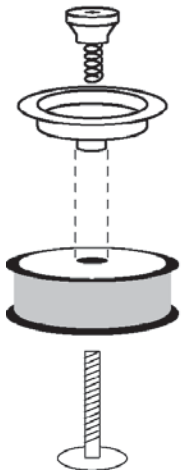
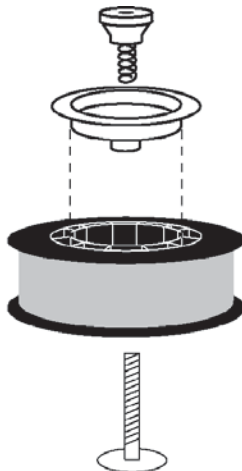

Figure 7A. Drive Brake Hardware Installation
Figure 7B. Spindle Adapter and Drive Brake Installation
5. If you are installing a four-inch spool of wire, install the drive brake hardware on the top of the spool of wire according to figure 7A. If you are installing an eight-inch spool, install the spindle adapter and drive brake hardware as shown in Figure 7B. The purpose of the drive brake is to cause the spool of wire to stop turning at nearly the same moment that wire feeding stops.